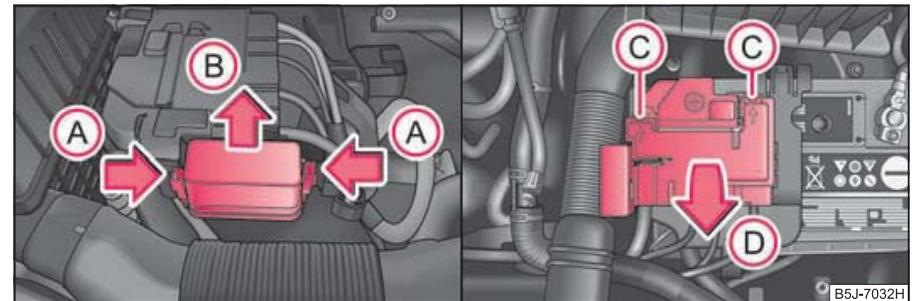

Fig. 165 The battery: fuse cover
- Press together the interlocks of the fuse cover simultaneously in direction of arrow **(A)** ⇒ fig. 165 and push out the cover in direction of arrow **(B)**.